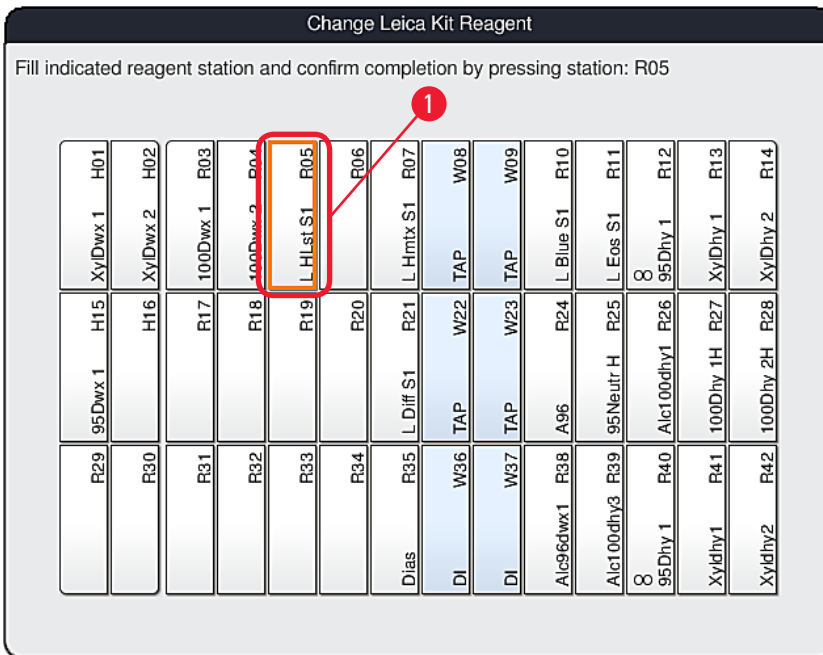

Fig. 59
3. In the new window "Change Leica kit reagent" (→ "Fig. 59"), the station to be filled is marked in orange (→ "Fig. 59-1").